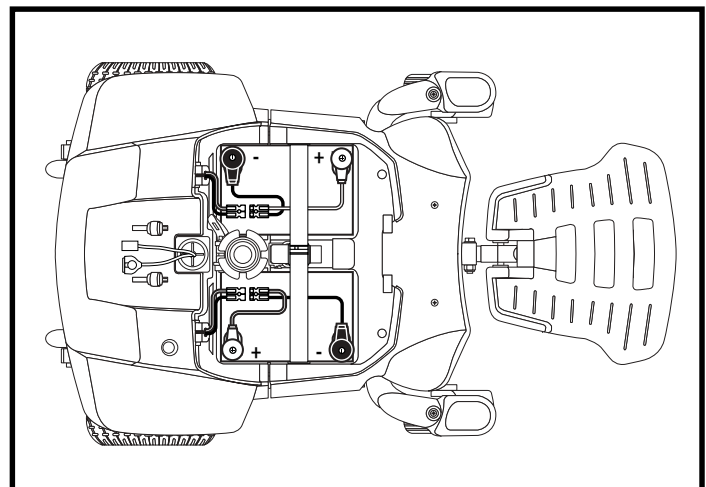

Figure 18. Battery Orientation
5. Place the new batteries into the battery wells with the terminals facing out as shown in figure 18.